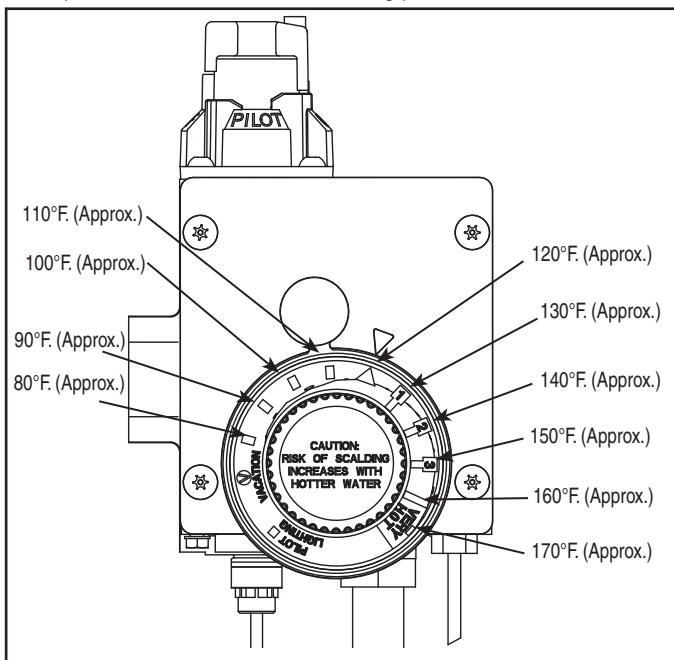

Figure 3 — Thermostatic Gas Valve.
2. WATER TEMPERATURE SETTING— The temperature of the water in the heater can be regulated by setting the temperature dial on front of the thermostat. (Refer to Fig. 3) To comply with safety regulations the thermostat was set at its lowest setting before water heater was shipped from the factory. A setting of 120°F., or lower if local codes require, is recommended as a starting point.